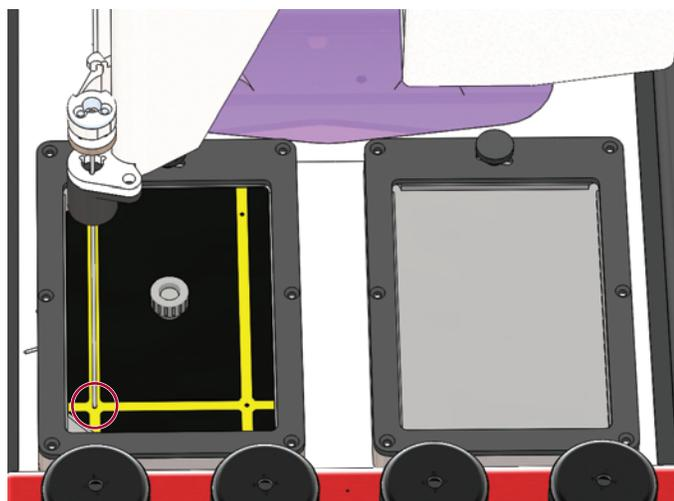

Figure 5. Sipper tube alignment in H12 position.
- Check to make sure the sipper tube is directly over the black dot where the two yellow lines intersect. The sipper tube will be over the dot when it is in the center of the two yellow lines (**Figure 5**). If the sipper tube is not on the black dot or centered follow the instructions below to adjust the sipper tube position.